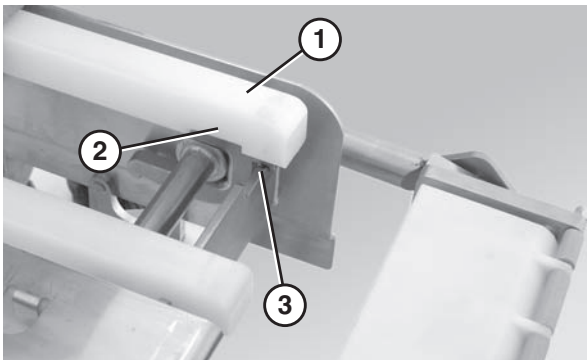

Figure 8
1. Position the wear strips (**Figure 8, item 1**) on the frame.
2. Make sure slots in the wear strips (**Figure 8, item 2**) line up properly with frame slots (**Figure 8, item 3**).